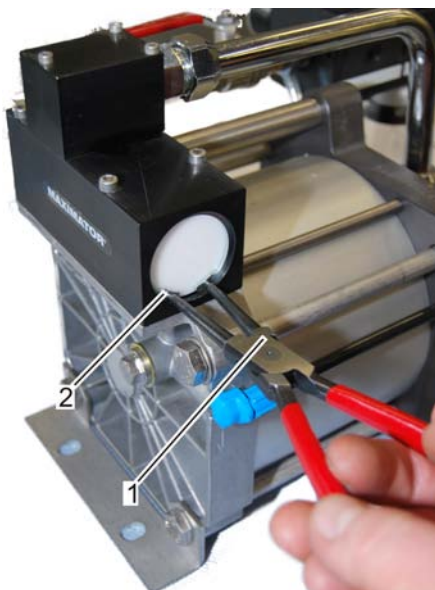

Fig. 32: Removing the circlip
5. ➔ Position circlip pliers (Fig. 32/1) on circlip of control valve housing (Fig. 32/2) and carefully remove circlip and secure to prevent it from getting lost.